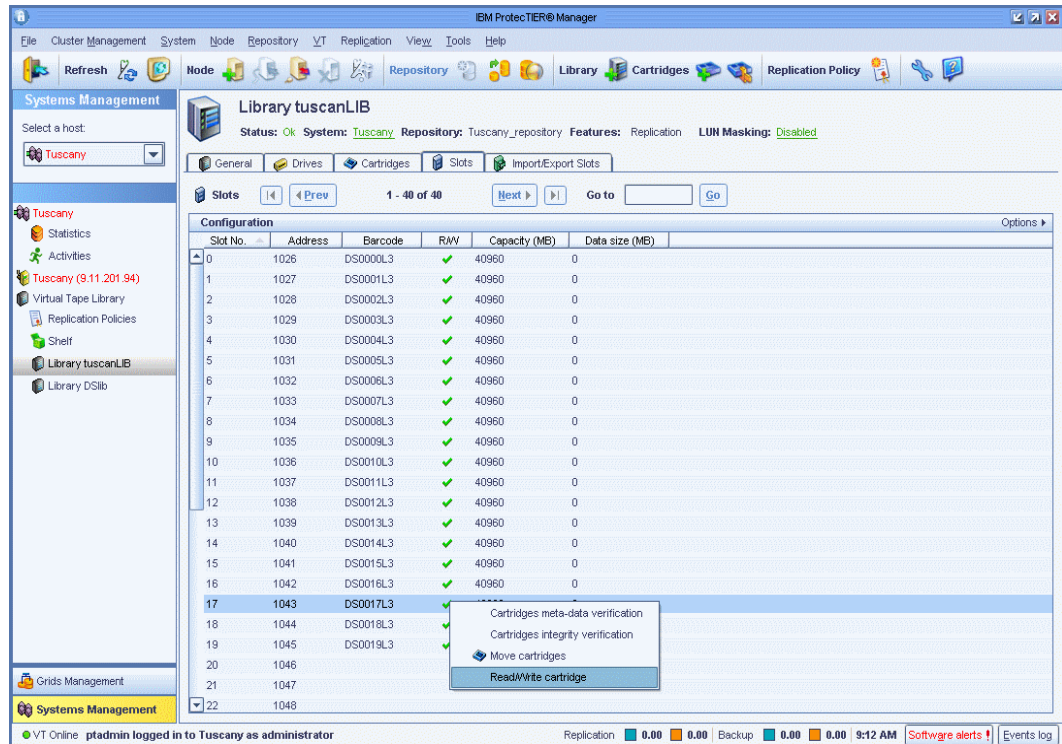

Figure 10-46 Slots window
2. Click the **Slots** tab. The Slots window opens (Figure 10-46).